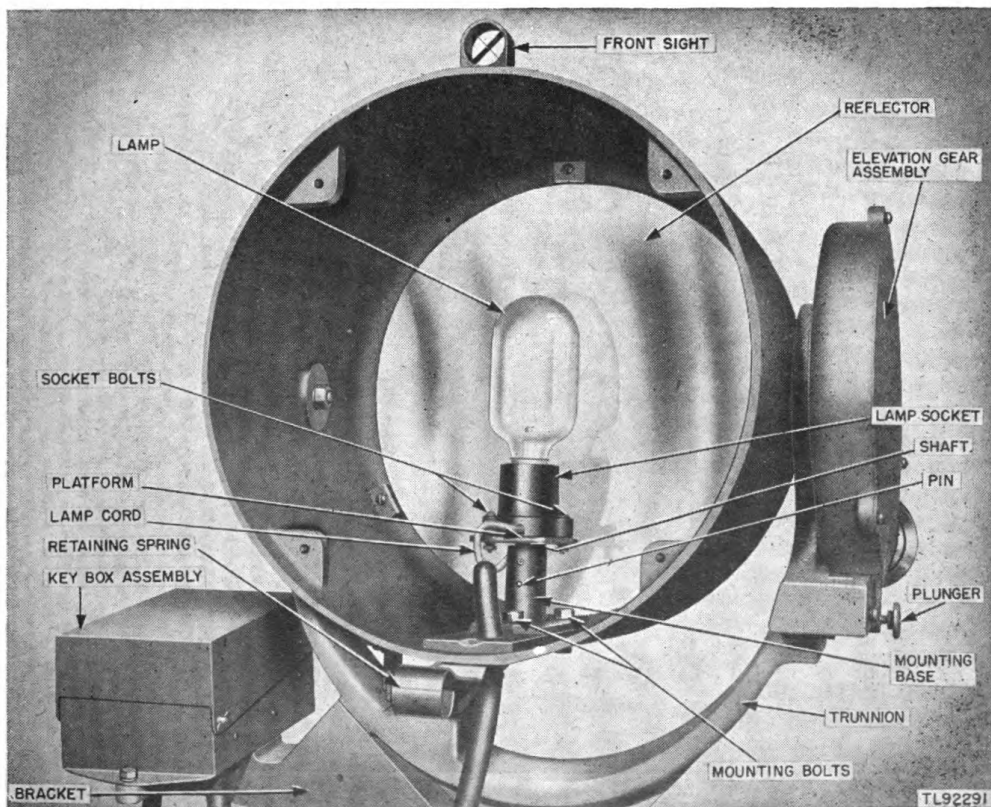

Figure 5. Inside of lamp housing of Signal Lamp M-283.
h. REFLECTOR. The rhodium reflector is mounted in the rear of the inside of the lamp housing. It is held in place by three retaining clips and screws (see fig. 5).